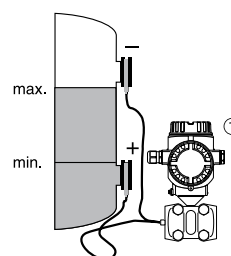

Figure 3: Measuring layout for level measurement in a closed container with FMD78
- Mount the Deltabar S below the lower diaphragm seal (see Fig. 3)